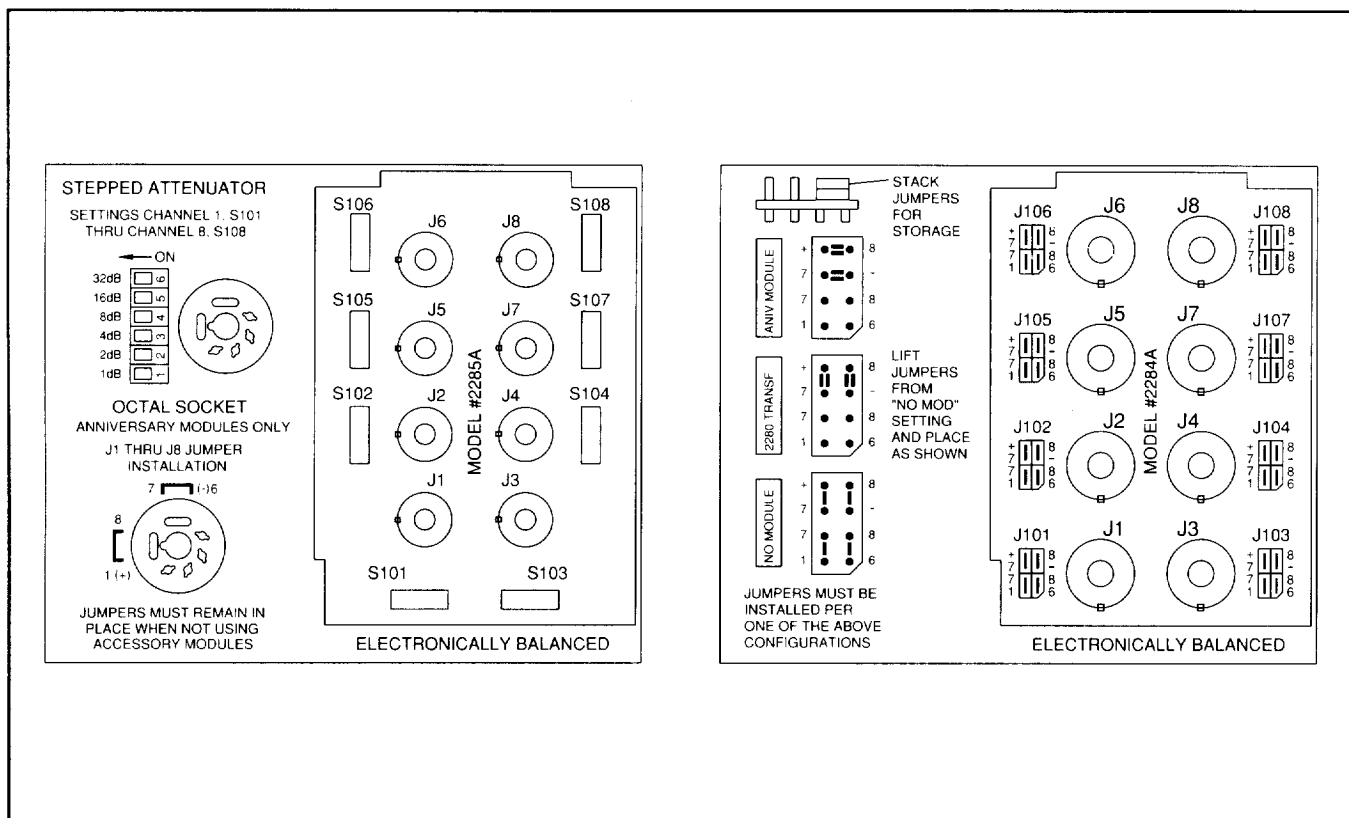

Figure 2 Layout of the Input Modules
The first unit is the 2285A which has electronically-balanced inputs and offers each channel a stepped input attenuator to reduce incoming signals in discrete increments. The six attenuation switches provide each channel 1, 2, 4, 8, 16 and 32 dB attenuation. Figure 2 shows the attenuation designation for these switches. By closing the switches in combination, any attenuation may be obtained in 1 dB steps to a maximum of -63 dB. Signal requirements for rated output is 0.775 Vrms with the stepped attenuator at 0 dB. This module allows for the connection
The **2284A** input module offers the same electronically-balanced inputs and quality performance as the **2285A** except it does not include the stepped input attenuators. Signal requirements are otherwise unaffected. This module is designed for use with external attenuators such as the **Altec Lansing 8428A**, and allows for the connection of eight **Anniversary Series** or **15335A** modules. It is necessary to strap the corresponding connector on the input card when using optional modules (see Figure 2).
tacle of the 2284A input board. Channel designations of the transformer receptacles are shown in Figure 2. Remove the jumpers between pins 1 and 8, 6 and 7 of the receptacle before attempting to plug in the transformer module.
2. If optional input modules are to be installed, plug the modules into the input section according to channel designation shown in Figure 2.